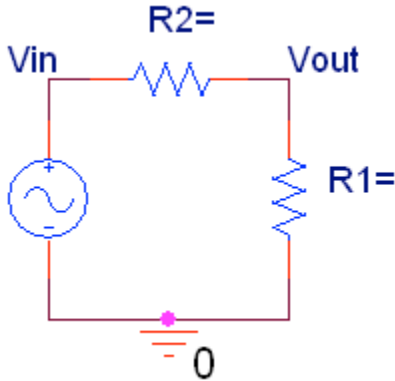

Figure 9: Voltage Divider to Reduce Function Generator Output to 2mV peak-to-peak
2. Connect the point labeled “Vout” in Figure 9 to one of the inputs of the stereo amplifier. Attach a speaker to the corresponding output channel, and play all three generated waveforms through the amplifier, varying the frequency (R7) and amplitude (R8) knobs to see how they affect the output signal you hear. Have the TA listen to all three outputs and initial below: